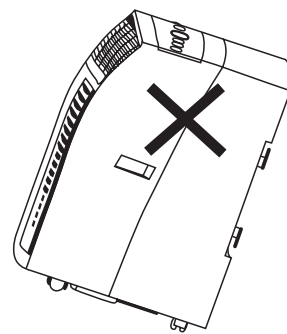

FIG. 1
- Transport the unit in an upright position only or leave in upright position for at least 2 hours before use. Keep at least 20 inches away from the wall. (Figure 1 & 4)